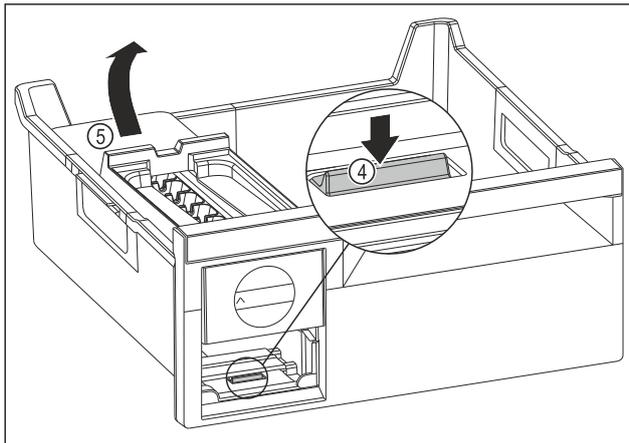

Fig. 79
- ▶ Removing the EasyTwist-Ice body: Use your finger to push the tab Fig. 79 (4) down and use your other hand to lift the EasyTwist-Ice body Fig. 79 (5) from behind at the same time.